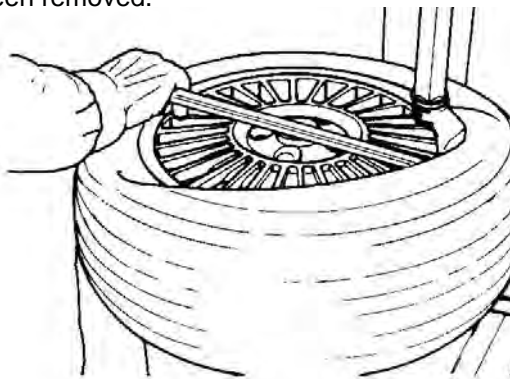

Fig. 4.1-5
**It is suggested that the mount/demount tool be removed after lifting the bead onto the mount/demount head (Fig. 4.1-5), however, you may remove the tool after the bead has been removed.**